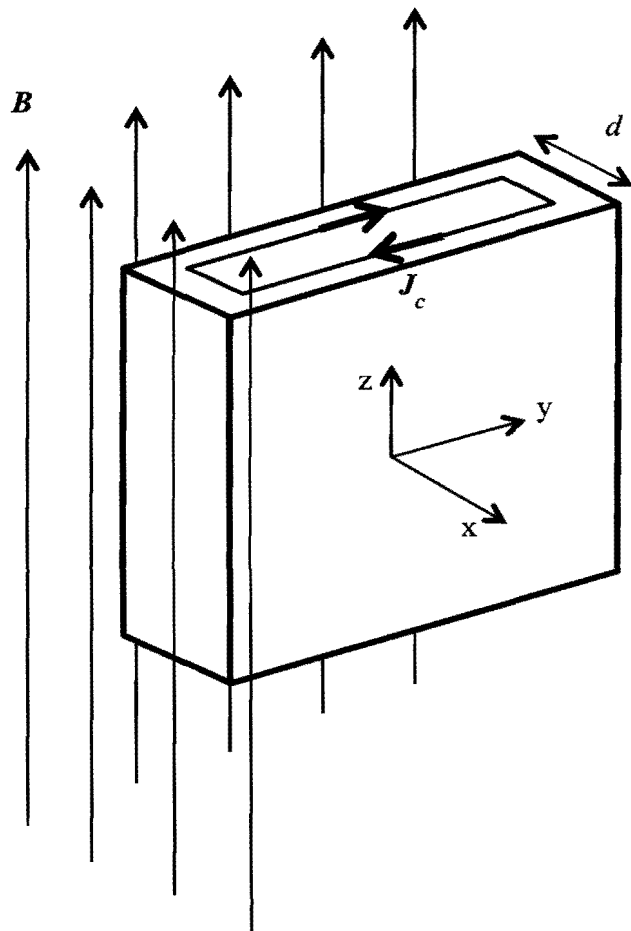

Fig. 1
- 1 (a) Describe the Bean model of current flow in type II bulk superconductors. Explain carefully how the thin superconducting slab shown in Fig. 1 can be fully magnetized via the application of a magnetic field B parallel to the slab surface from an initially unmagnetised state after cooling to the superconducting state. Use diagrams of the cross section of the slab to support your answer. [30%]
- (b) (i) Derive an equation for the variation of the field gradient $\frac{dB}{dx}$ with critical current density J_c for the type II superconducting slab of thickness d shown in Fig. 1. State any assumptions you make. [25%]